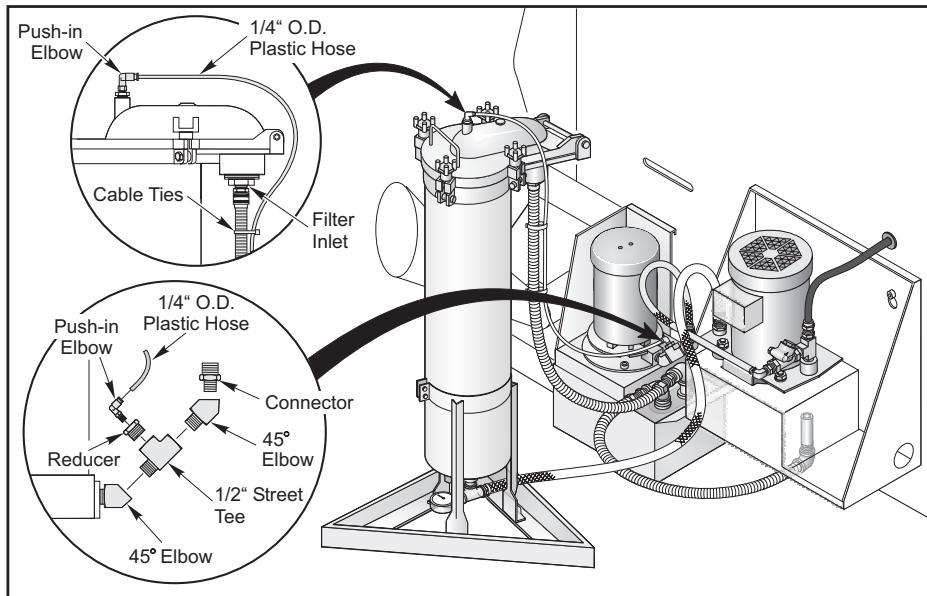

Figure 3.0 Auxiliary Filter Priming System
2. Install the 1/2" street-tee from the kit between the two 45° elbows on the primary coolant pump. Install the pipe reducer from the kit into the side outlet of the street-tee. Install the 1/4" push-in elbow into the pipe reducer. (See figure 3.0).
3. Insert the 1/4" OD plastic hose into the push-in elbow on the pump. Route the hose along the intake filter hose and around the hinge of the auxiliary filter. Trim the plastic hose to length and insert it into the push-in elbow at the top of the filter. Secure the plastic hose to the inlet hose with the supplied cable ties. (See figure 3.0).